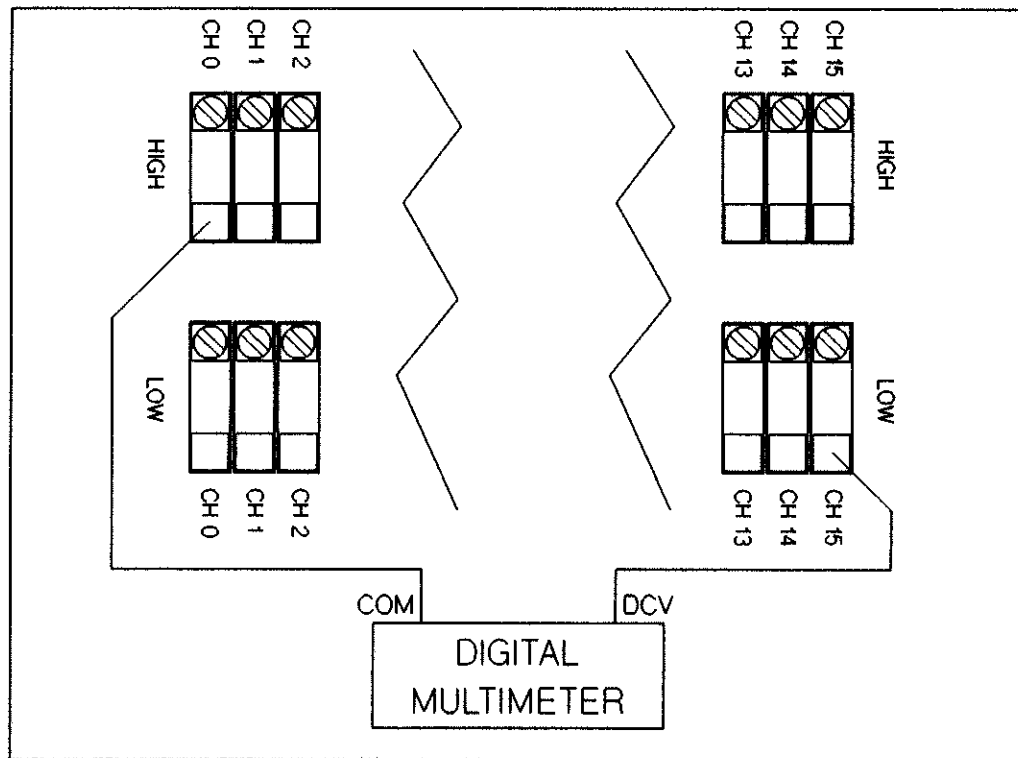

Figure 13-5 Even Channels Tests
3. Set the multimeter to measure two-wire ohms. If using the recommended multimeter (i.e., HP 3456A), connect the DCV (HI) input of the multimeter to the shorted LOW connections on the test fixture. Connect the multimeter COM (LO) input to the even channels HIGH connections on the test fixture. The connections are shown in Figure 13-5.
If using a different multimeter/voltmeter than the recommended model, the multimeter/voltmeter current source polarity must be determined. For negative polarity current sources, like the recommended multimeter, make the connections as stated above and as shown in Figure 13-5. For positive polarity current sources, like the HP 44701A plug-in voltmeter, connect the multimeter/voltmeter High lead to the HIGH connections on the test fixture and the Low lead to the LOW connections on the test fixture. Incorrect connections may cause the reverse bias protection diode of the output MOSFET to be forward biased by the current source. This can result in incorrect readings.
4. Connect the COM (LO) input of the multimeter to the even channels shorted HIGH connections. Leave the DCV (HI) input connected to the shorted LOW connections. The connections are shown in Figure 13-5.